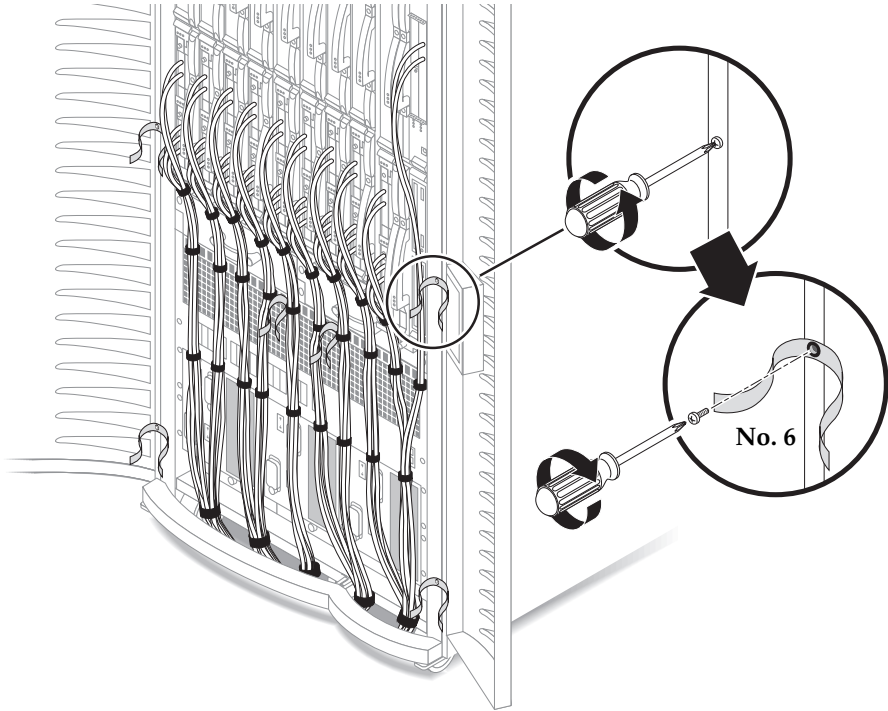

FIGURE 1-4 Front Door Maintenance Straps
2. Use the screws recovered from Step 1 to secure two green cable straps (No. 6) to the holes opened in Step 1 (FIGURE 1-4).
4. Use the screws recovered from Step 3 to secure two green cable straps (No. 6) to the holes opened in Step 3 (FIGURE 1-4).